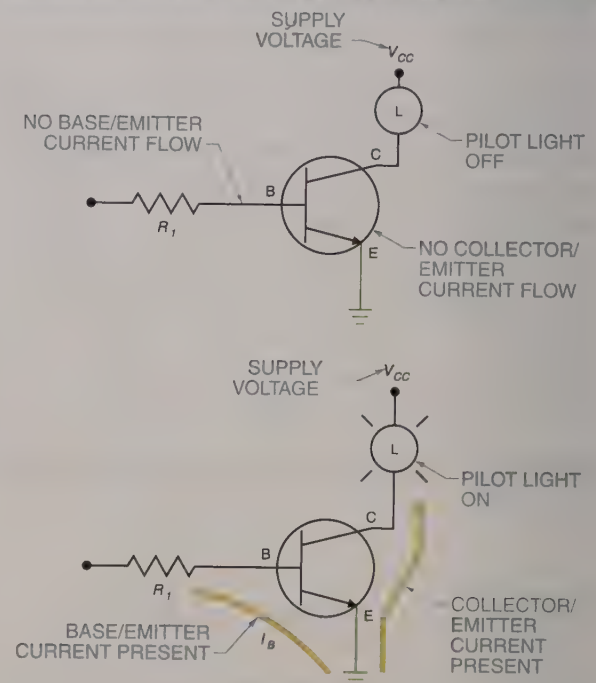

Figure 23-2. A transistor can be made to operate like a switch.
A transistor can be made to operate like a switch. For example, a transistor can be used to turn on or off a pilot light. **See Figure 23-2.** In this circuit, the resistance between the collector (C) and the emitter (E) is determined by the current flow between the base (B) and emitter (E). When no current flows between B and E, the collector-to-emitter resistance is high, like that of an open switch. The pilot light does not glow because there is no current flow.